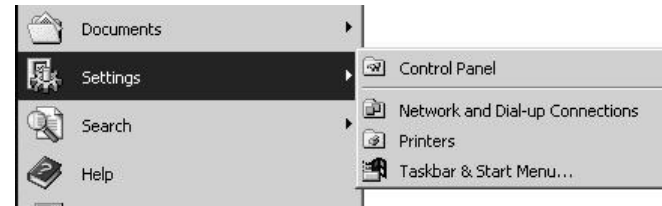

Figure 1.3 Selecting Settings > Control Panel
1. Turn on your computer and the rest of the system equipment. On your computer desktop, select Start > Settings > Control Panel > Network Connections (Figure 1.3). Set a static TCP/IP address and Subnet mask on the master computer. Document the address and mask.